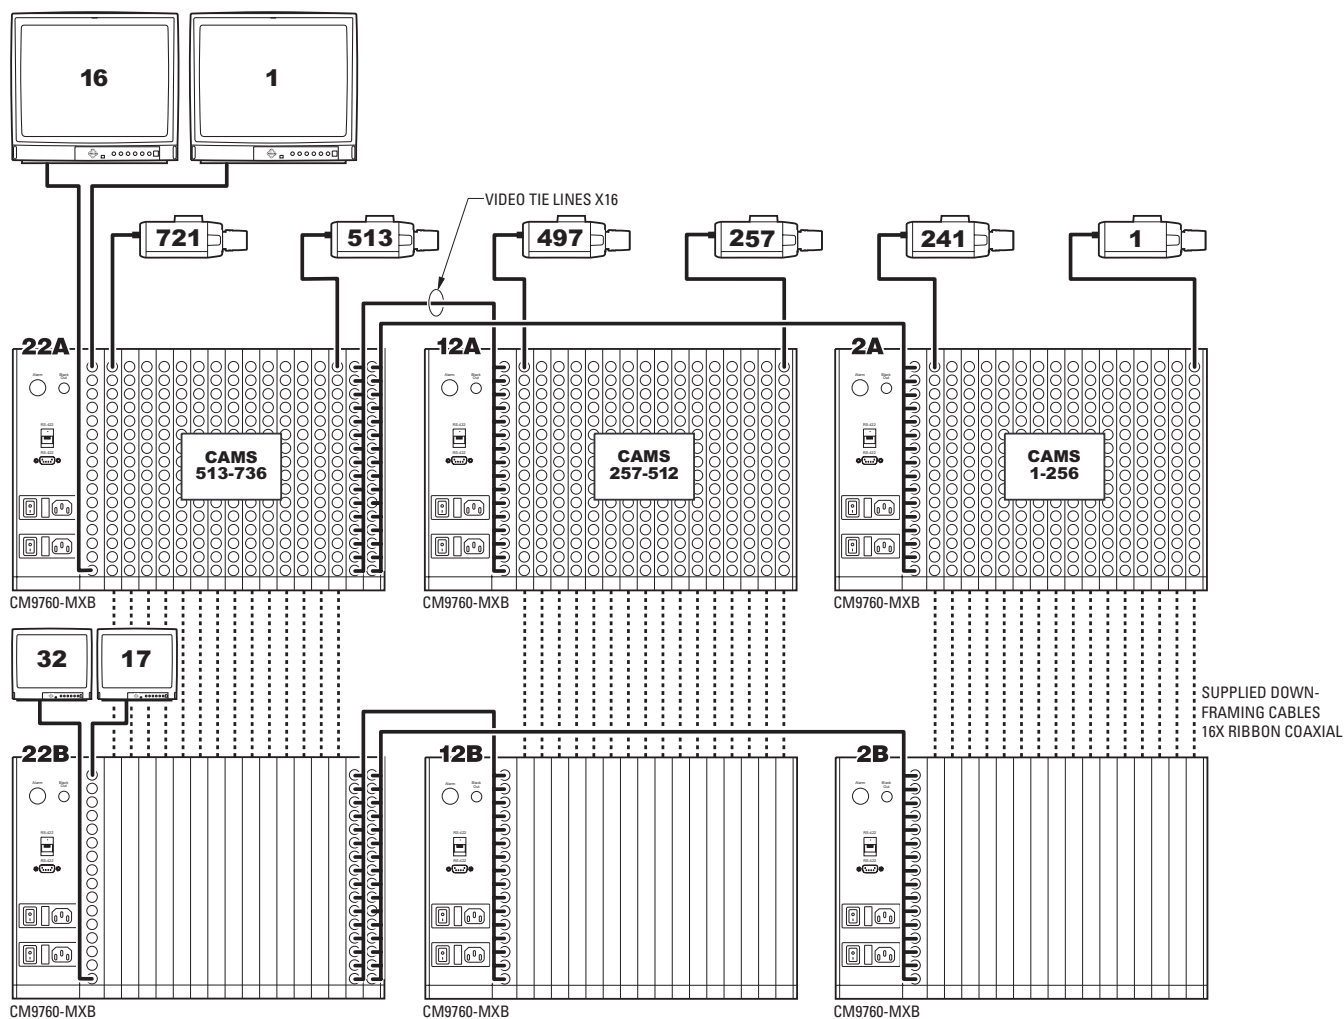

Figure 73. Sideframing and Downframing: 736 x 32 Configuration
- 736 x 32 (refer to Figure 73)